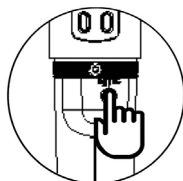

Figure 4
1. Press the synchronizing button on the microphone (Fig 4).